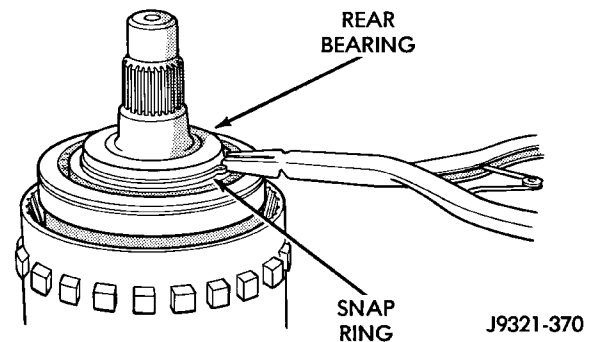

Fig. 217 Rear Bearing And Snap Ring Installation
(7) Install rear bearing and snap ring on output shaft (Fig. 217). Be sure locating ring groove in bearing is toward rear.